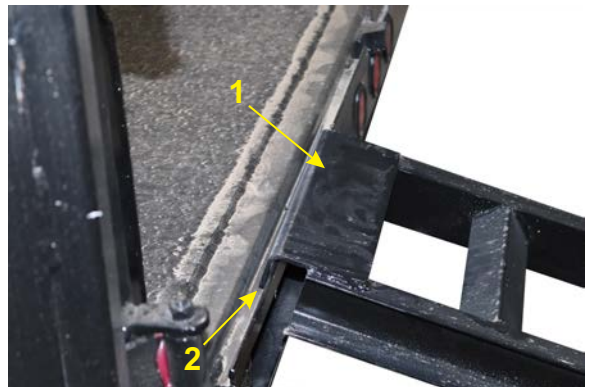

Figure 3-27 – Attach Ramps to Trailer Bed
4. Attach the ramps (1, Figure 3-27) to the trailer bed using the lock lip (2, Figure 3-27) that is across the rear width of the trailer.